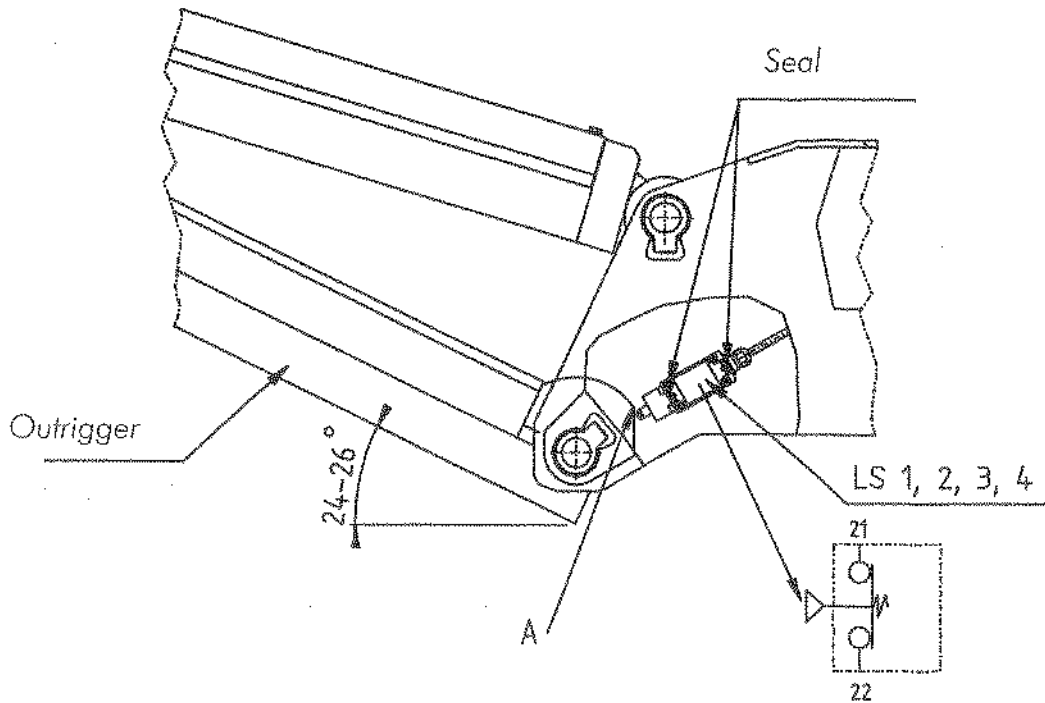

Figure 21.2-1
21.2 Outrigger position limit switches LS1, 2, 3, 4, figure 21.2-1